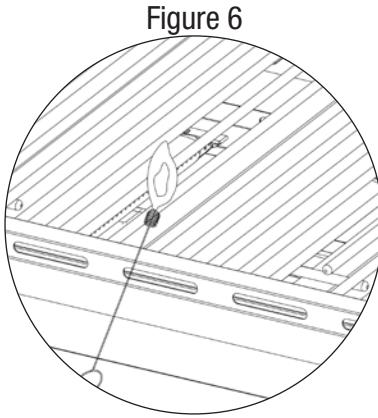

Figure 6
7. If igniter does not light burner, use a lit match secured with the lighting rod provided to light burners manually. Access the burners through the cooking grid and heat plates. Position the lit match near side of the burner. (Figure 6)